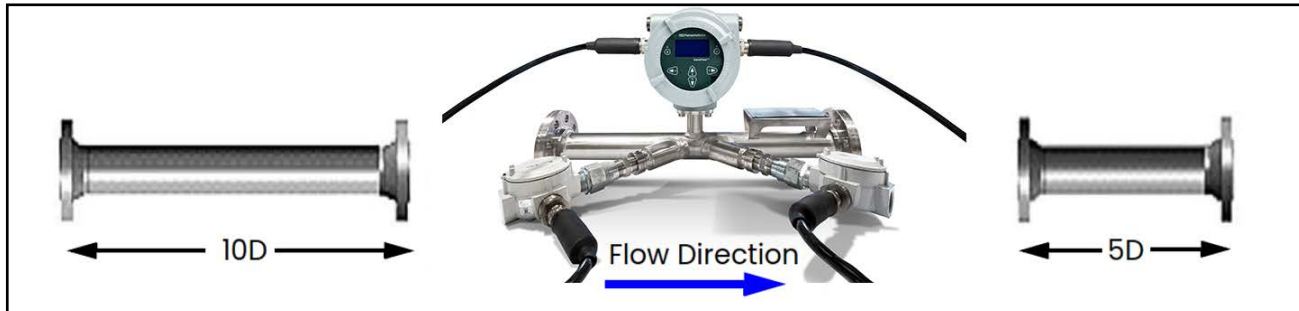

Figure 9: Minimum Straight Run Pipe Requirements
- Locate the flowcell so that there are at least 10 pipe diameters of straight, undisturbed flow upstream and 5 pipe diameters of straight, undisturbed flow downstream from the measurement point (see *Figure 9* below). Undisturbed flow means avoiding sources of turbulence in the fluid (e.g., valves, flanges, expansions, elbows, etc.), avoiding swirl, and avoiding cavitation.